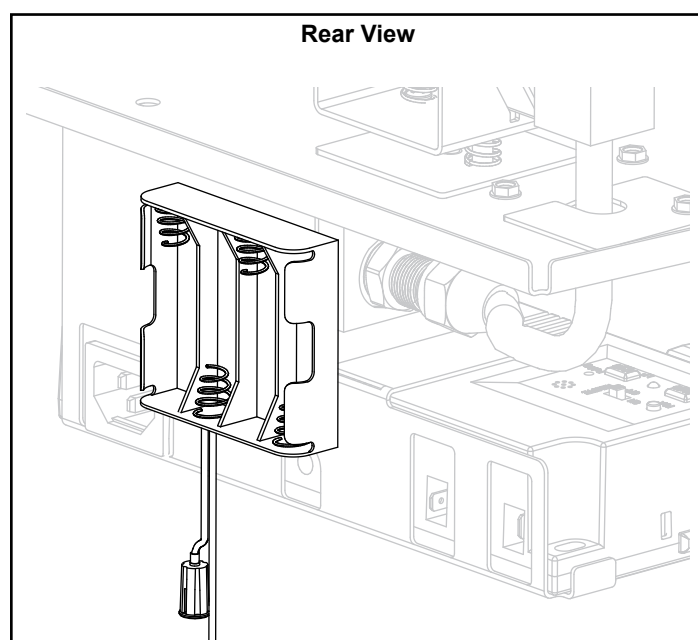

Figure 4.5 - Battery Holder
- Remove the batteries from the battery tray. Replace decorative front on appliance, Figure 4.5.